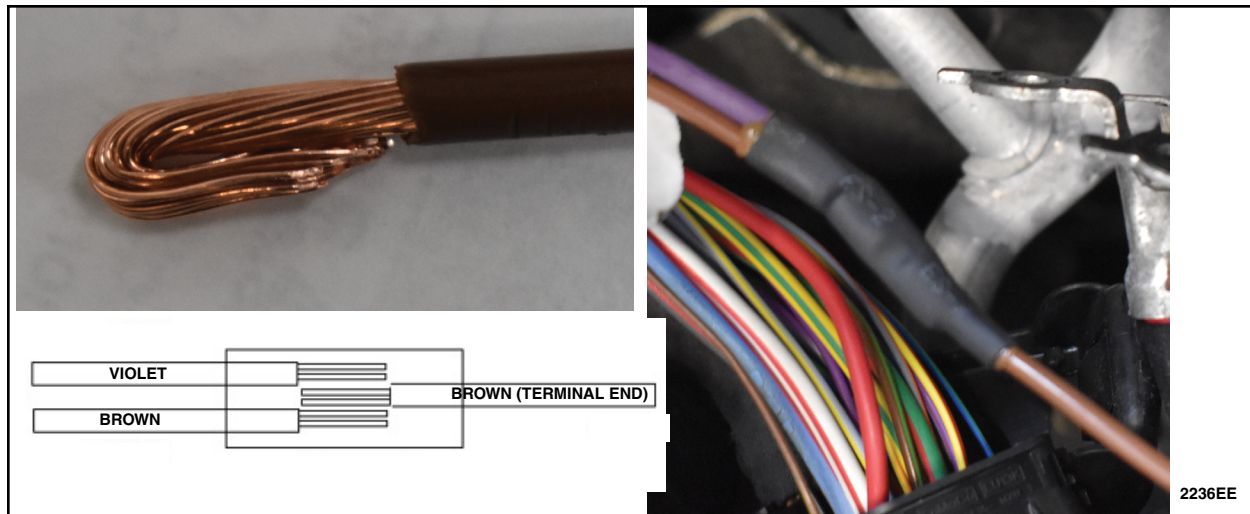

FIGURE 37
42. On the brown terminal end fold the exposed wire in half before placing in splice butt connector. This will allow good contact with the butt splice connector. Place wires in splice butt connector. See Figure 37.